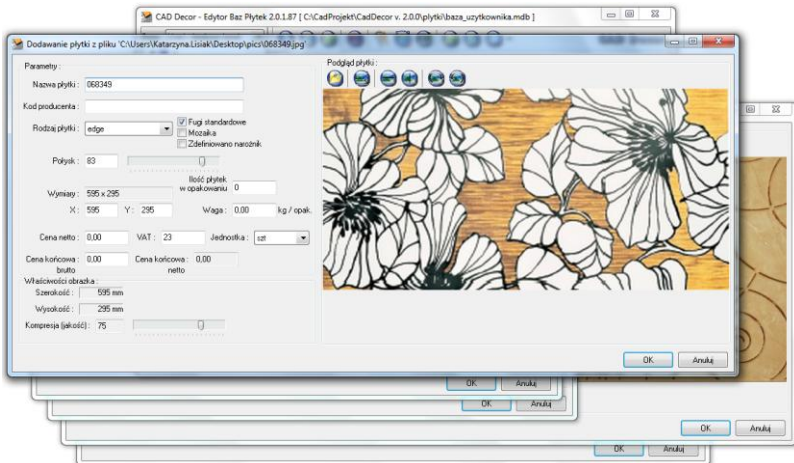

Fig. 388 – adding a few tiles in one time to the User Database
*Note! It is possible to add more than 1 tile to the currently created collection in one time. To do it, after adding a new collection, without clicking the Add new... icon, move prepared picture files of tiles (in JPG format) to the Tile Editor dialog, using the 'drag-and-drop' method. It will result in opening a few new dialogs Adding a tile from a file, one for each picture file dragged to the editor's dialog. Fill out the data fields in each dialog (Fig. 388).*